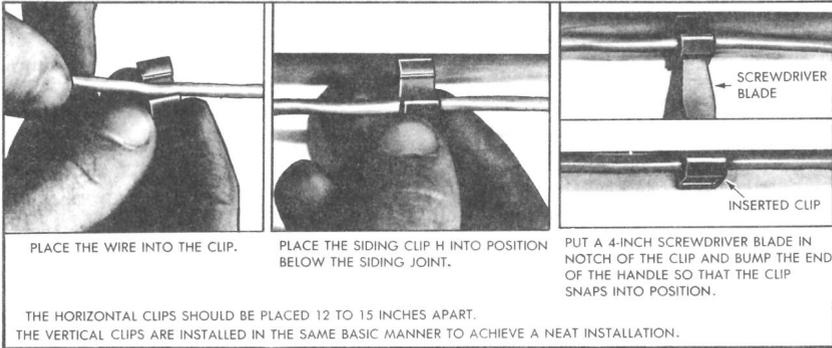

FIGURE 5. Installing Horizontal Clip
(4) Remove any slack from the wire, dress the wire against the siding, and proceed with the next clip. Place the clips 12 to 15 inches apart. See Figure 5.